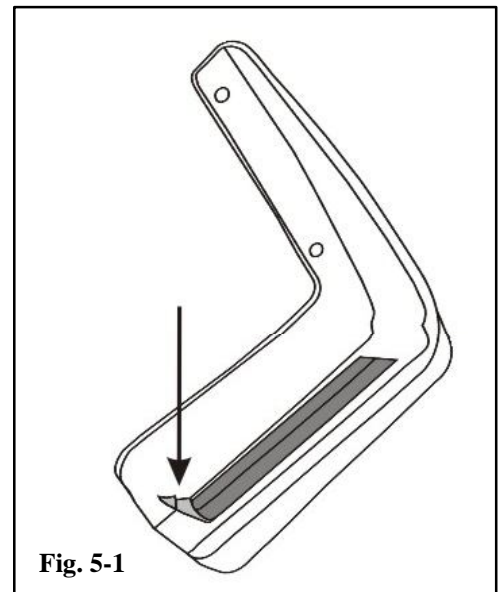

Fig. 5-1
- ⚠ (a) Remove tape liner using 3M pull tabs. (Fig. 5-1)
- ⚠ (c) Re-Install existing factory screws, location A, while holding part up and into body panel. (Fig. 5-1)